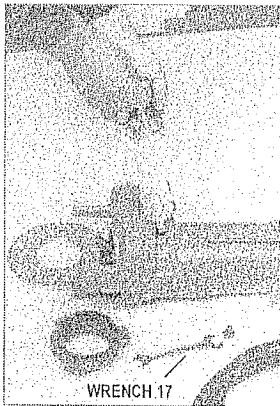

Fig. 9
- Oil cartridge, using a filling plug in the pump casing. Provided there is water or a strong emulsion of water and oil, find out the cause and replace the cartridge – Fig. 9 (it should be carried out by the authorized service centre).